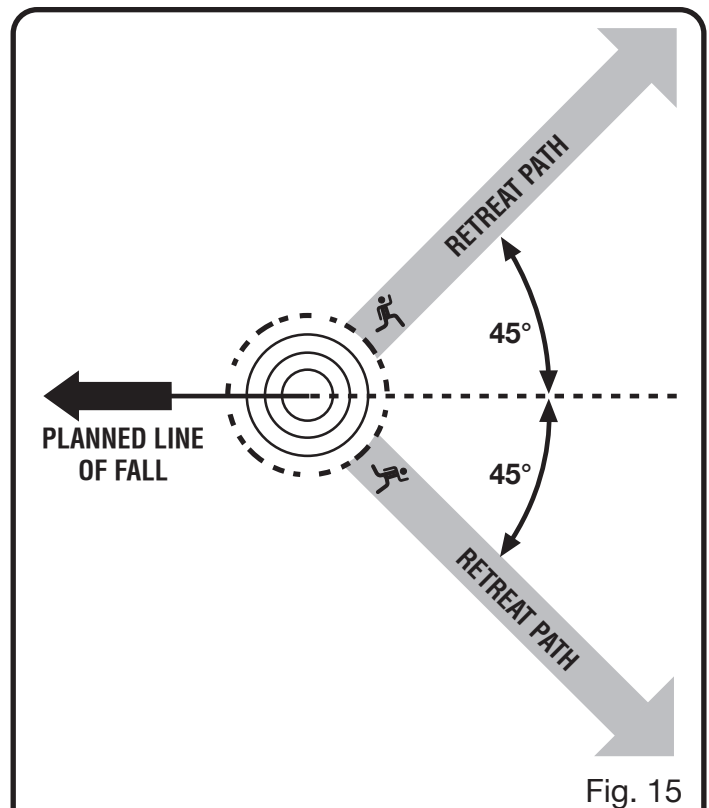

Fig. 15
See Figures 15 - 18.
- Before any cuts are started, pick your escape route (or routes in case the intended route is blocked); clear the immediate area around the tree and make sure there are no obstructions in your planned path of retreat. Clear paths of safe retreat should extend back and diagonally (45°) to the rear of the planned line of fall. When the tree begins to fall, you should retreat away from the direction of fall along a retreat path and at least 20 feet away from the trunk in case it kicks back over the stump. *See Figure 15.*